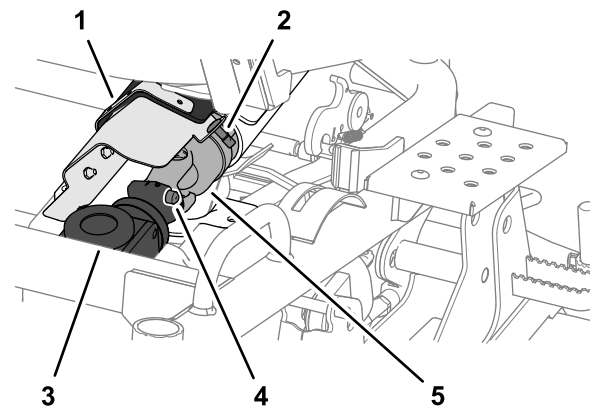

Figure 112
1. Rotate the quarter-turn fastener and open the universal-joint cover from the belt cover (Figure 112).
2. Disconnect the forward end of the driveshaft from the mower-deck gearbox by pressing the spring-loaded pin, and then pulling the end of the driveshaft rearward (Figure 112).
1. Align the splines of the driveshaft-universal joint with the splines in the gearbox coupling; refer to Figure 112 in Disconnecting the Driveshaft from the Mower-Deck Gearbox (page 76).
2. Press the spring-loaded pin and then push the end of the driveshaft forward; refer to Figure 112 in Disconnecting the Driveshaft from the Mower-Deck Gearbox (page 76).
3. Release the spring-loaded pin and check that the universal joint of the driveshaft is locked into the mower-deck gearbox; refer to Figure 112 in Disconnecting the Driveshaft from the Mower-Deck Gearbox (page 76).
4. Close the universal-joint cover and secure it to the belt cover with the quarter-turn fastener; refer to Figure 112 in Disconnecting the Driveshaft from the Mower-Deck Gearbox (page 76).